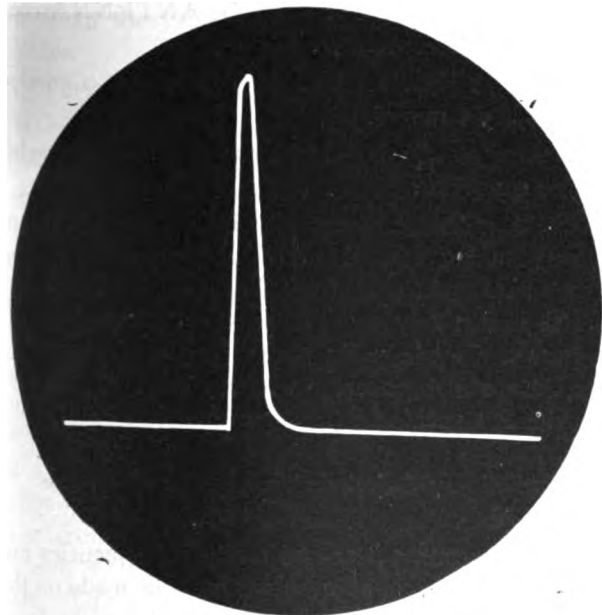

Figure 79. Test pulse.
e. Turn the TEST SWITCH to the PO position. A picture of the envelope of the r-f pulse, similar to figure 79, will appear on the screen of the test oscilloscope.